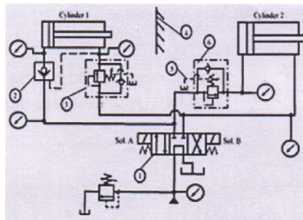

Fig.1
- Q8)** a) For the circuit diagram given in Fig.1, identify the type of Circuit & the numbered Components, also describe the circuit's operation. [8]